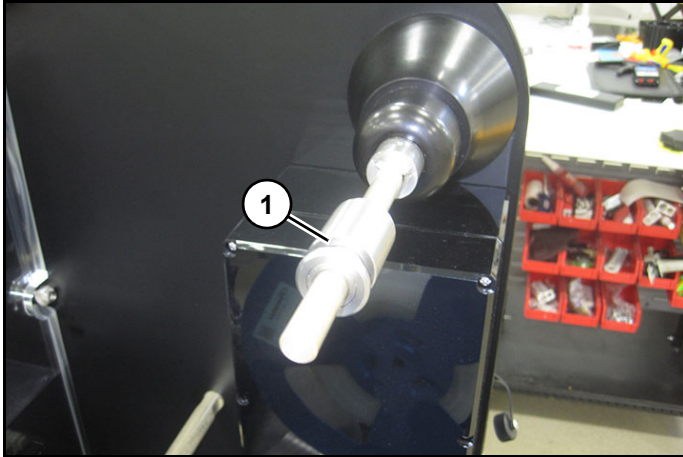

Figure 2
1. Remove spool collar (1) (Figure 2) by pressing in and pulling.
3. Replace spool collar (1) (Figure 2).